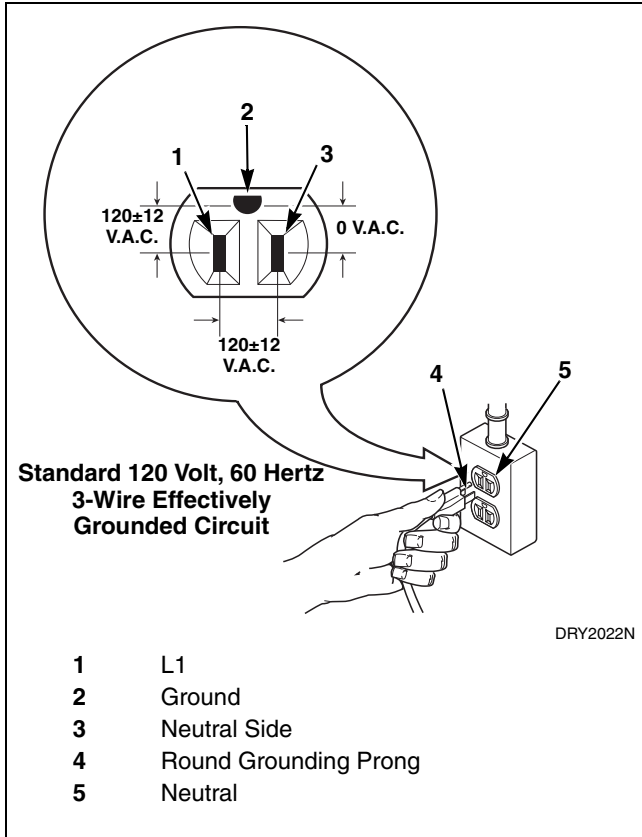

Figure 13
The three-prong grounding plug on the power cord should be plugged directly into a polarized three-slot effectively grounded receptacle rated 110/120 Volts AC (alternating current) 15 Amps. Refer to *Figure 13* to determine correct polarity of the wall receptacle.
**NOTE: Have a qualified electrician check the polarity of the wall receptacle. If a voltage reading is measured other than that in *Figure 13*, the qualified electrician should correct the problem.**